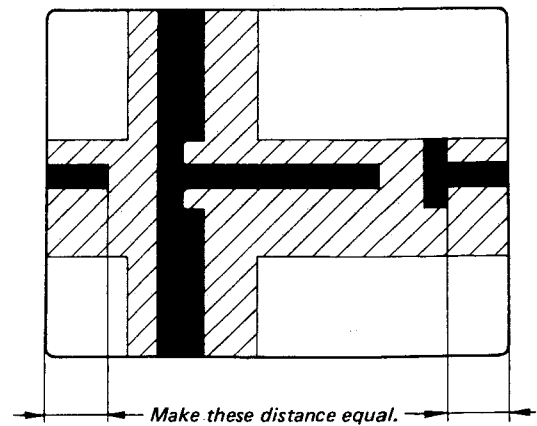

Fig. 5-173.
3. Turn RV 1 on the V board in the H. DELAY and V. DELAY operations so that the H. DELAY position is as shown in Fig. 5-173.